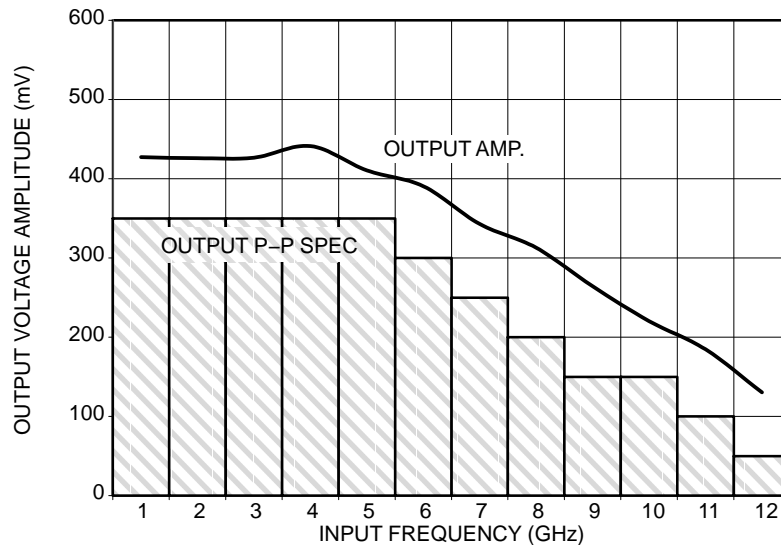

Figure 3. Output Amplitude (V_{OUTPP}) vs. Input Frequency (F_{IN}) at Ambient Temperature (Typical)
23. Measured using a 500 mV source, 50% duty cycle clock source. All loading with $50\ \Omega$ to $V_{CC} - 2.0\text{ V}$ for QFN package. For minimum f_{\max} value of 10.5 GHz, output amplitude is approximately 200 mV (as shown in Figure 3, where output P-P spec is shown as a minimum/guarantee of around 150 mV). Input edge rates 40 ps (20% – 80%).